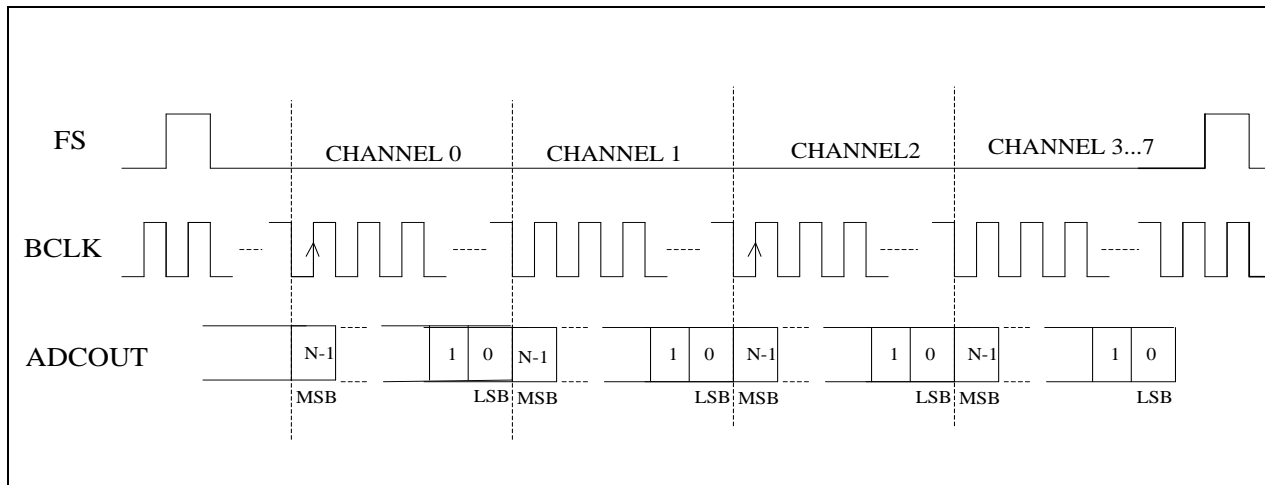

Figure 28 PCM Time Offset Audio Data
Normally, the DAC data is clocked immediately after the Frame Sync (FS). In this mode, audio data is delayed by a delay count specified in the device control registers. The Channel 0 MSB is clocked on the BCLK rising edge defined by the delay count set in **LEFT_TIME_SLOT TSLOT_L0 REG0XF[9:0]**. The subsequent channel's MSB is clocked on the next BCLK after the LSB of the previous channel. This can be seen in **Figure 28**.